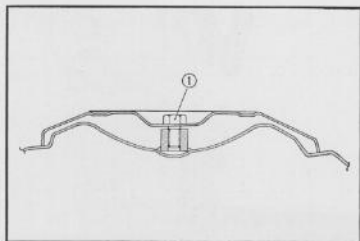

Fig. 4.46 Cross-sectional view of side cover installation
- 2) Use the proper size bolt (6×10mm hex bolt) ① to install the side cover on the tank. Long bolt will bottom on the tank and result in puncture. (Fig. 4.46)